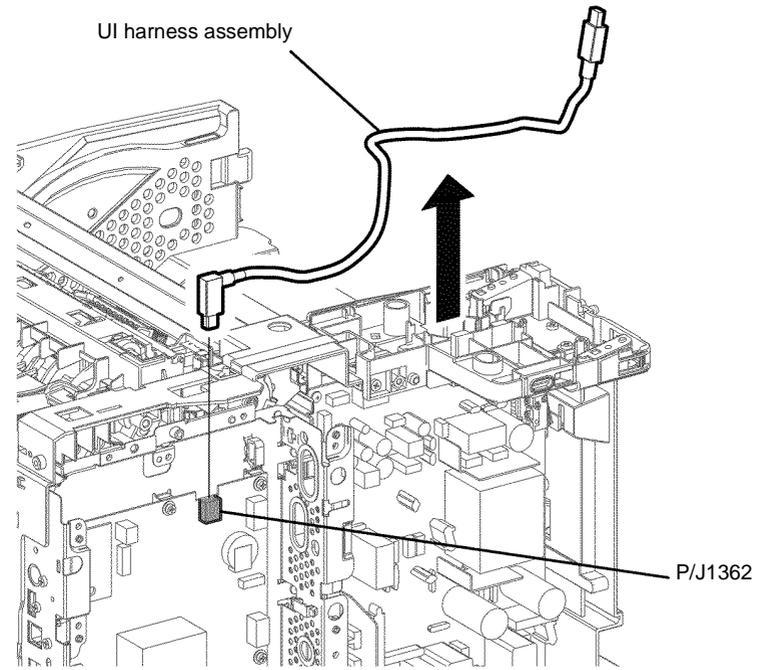

Figure 3 UI harnesses assembly removal
16. Disengage P/J1362, release one push tie, then remove the UI harness assembly, Figure 3.